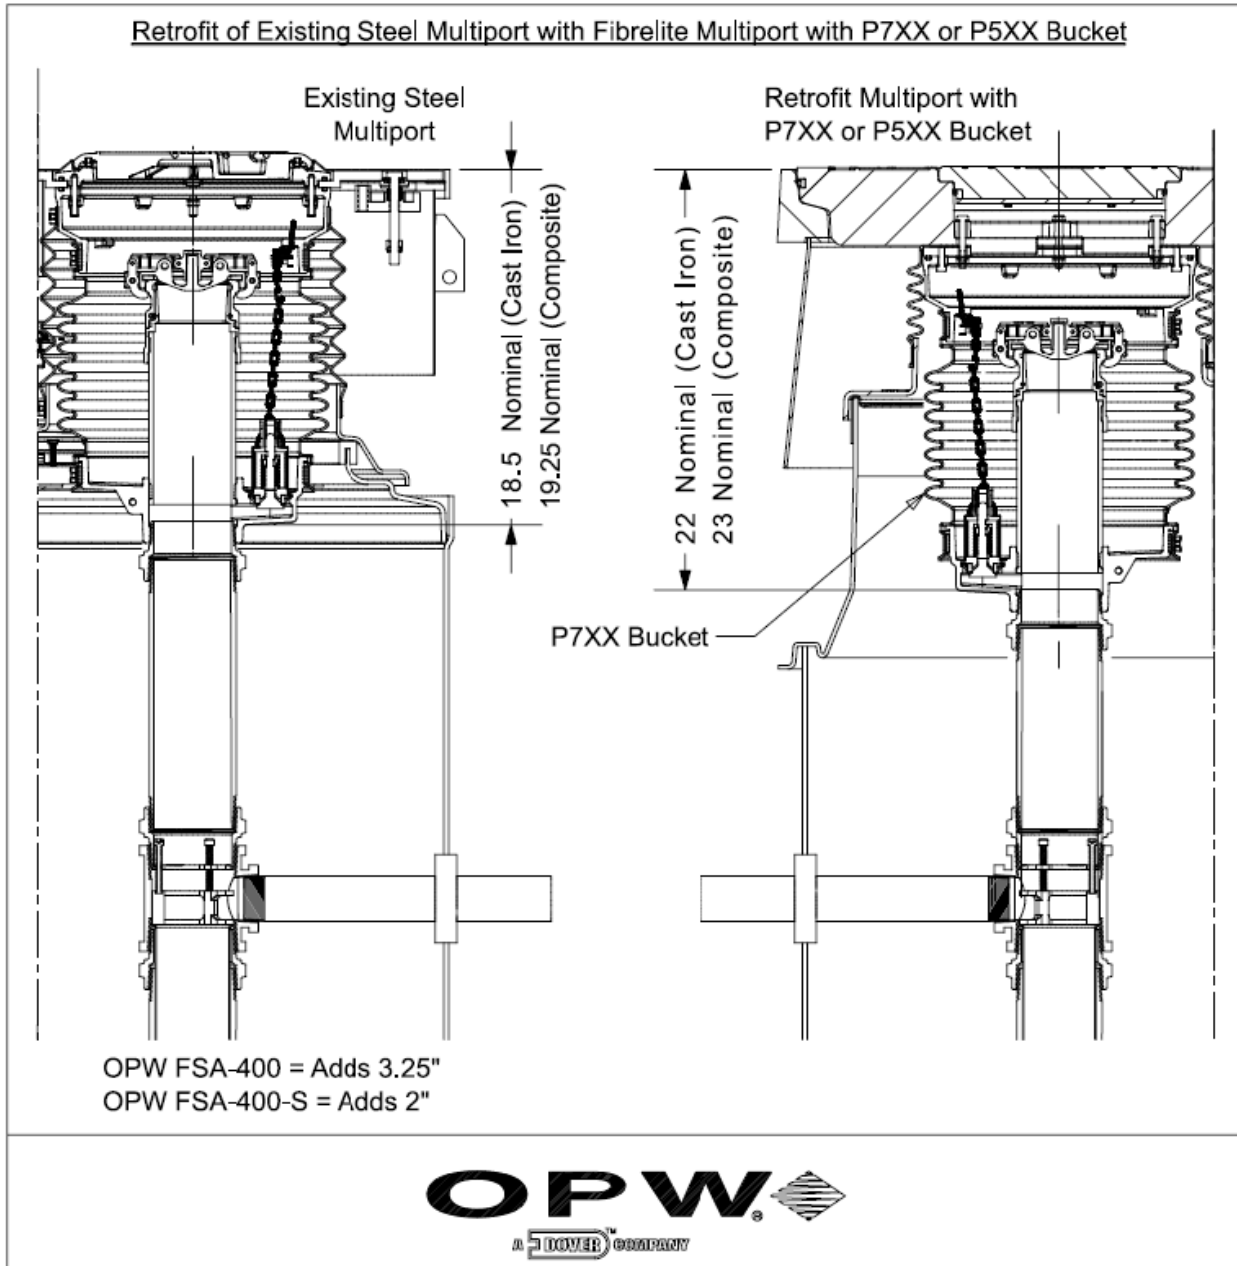

Figure 53
**Note:** For use of P7XX or P5XX buckets with adapter ring see Figure 53 in Appendix on page 26 for bucket dimensions.